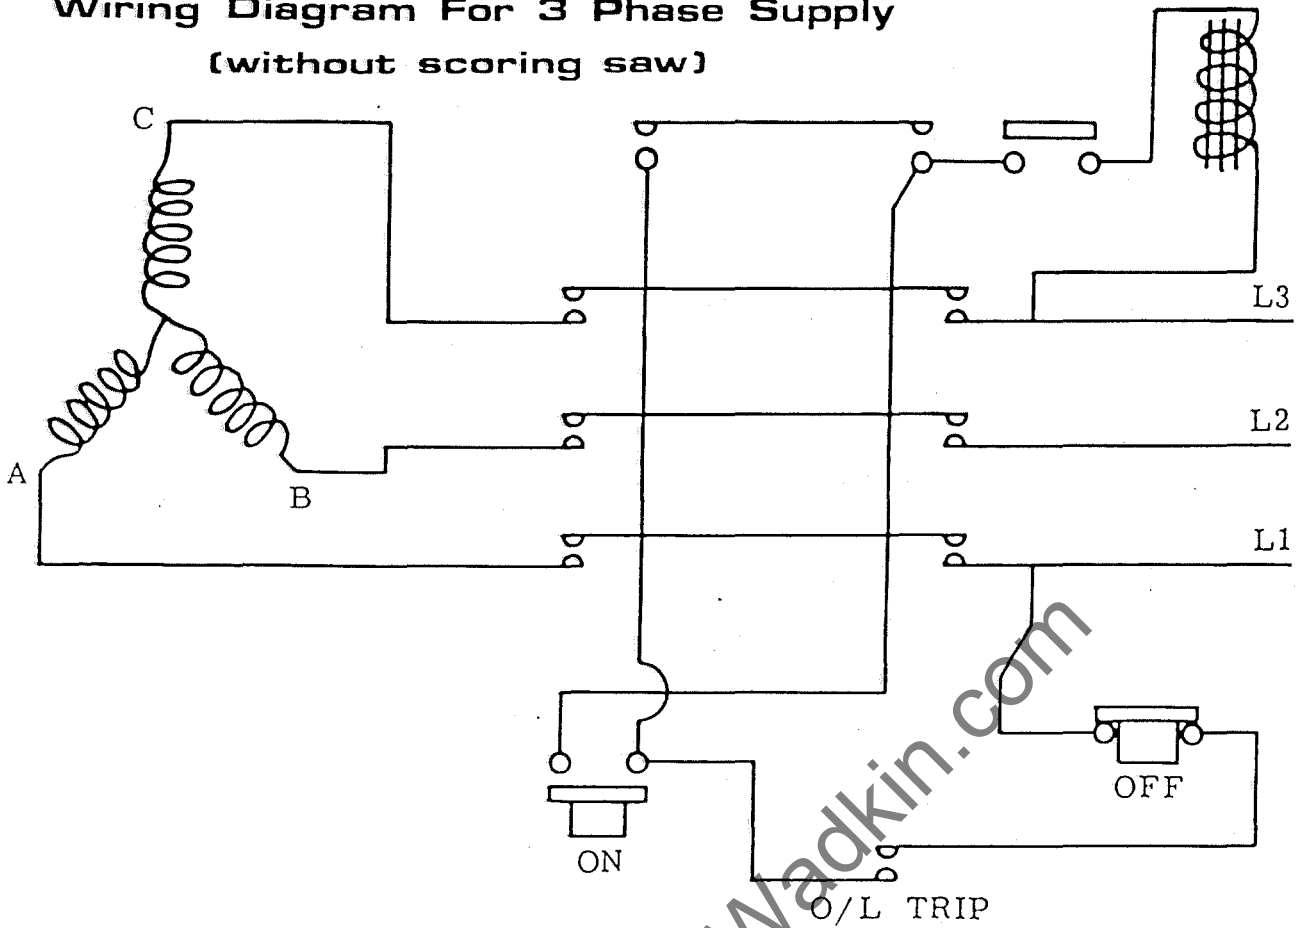
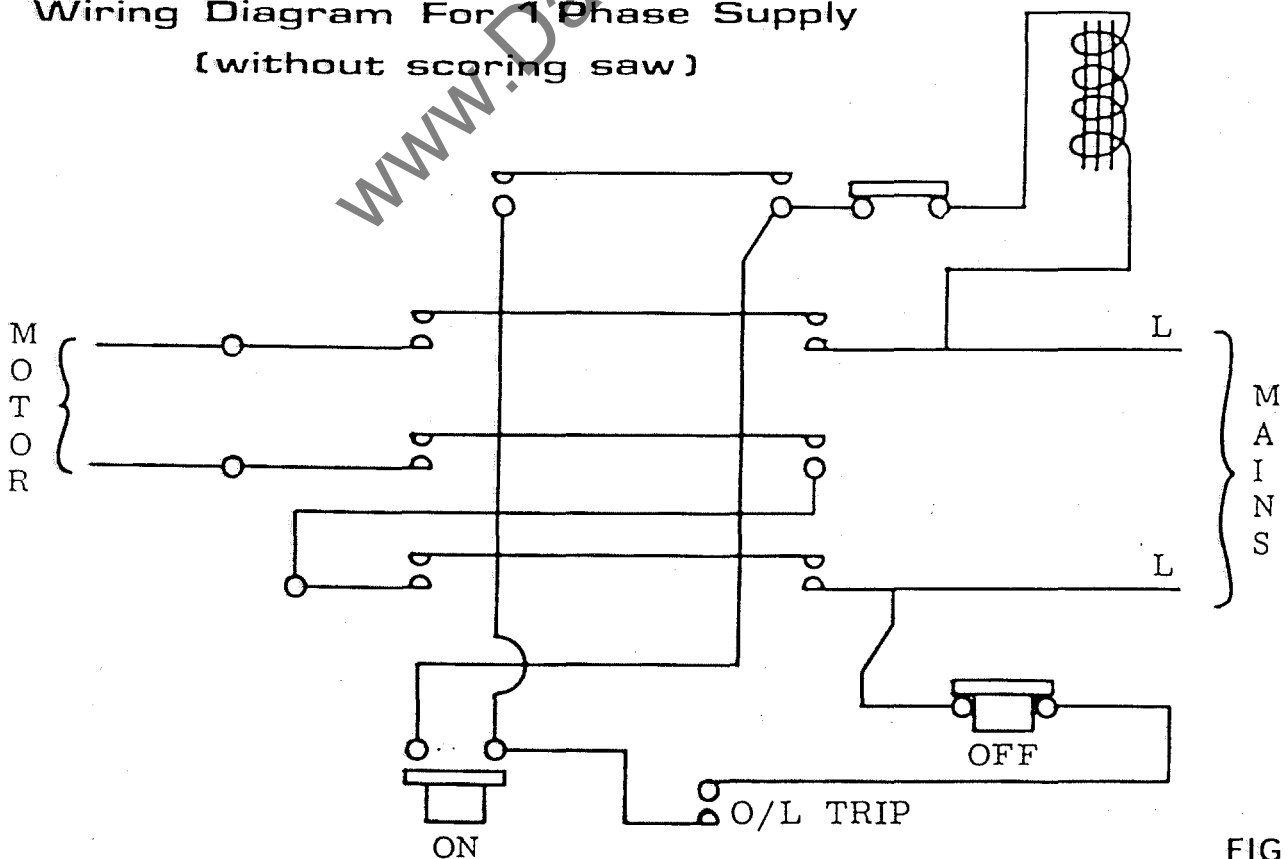

FIG 2
FIG 3
4. Correct the line heads to the appropriate terminals. See FIG 2 for 3 phase supply; FIG 3 for 1 phase supply or FIG 4 for 3 phase supply with scoring saw (extra)